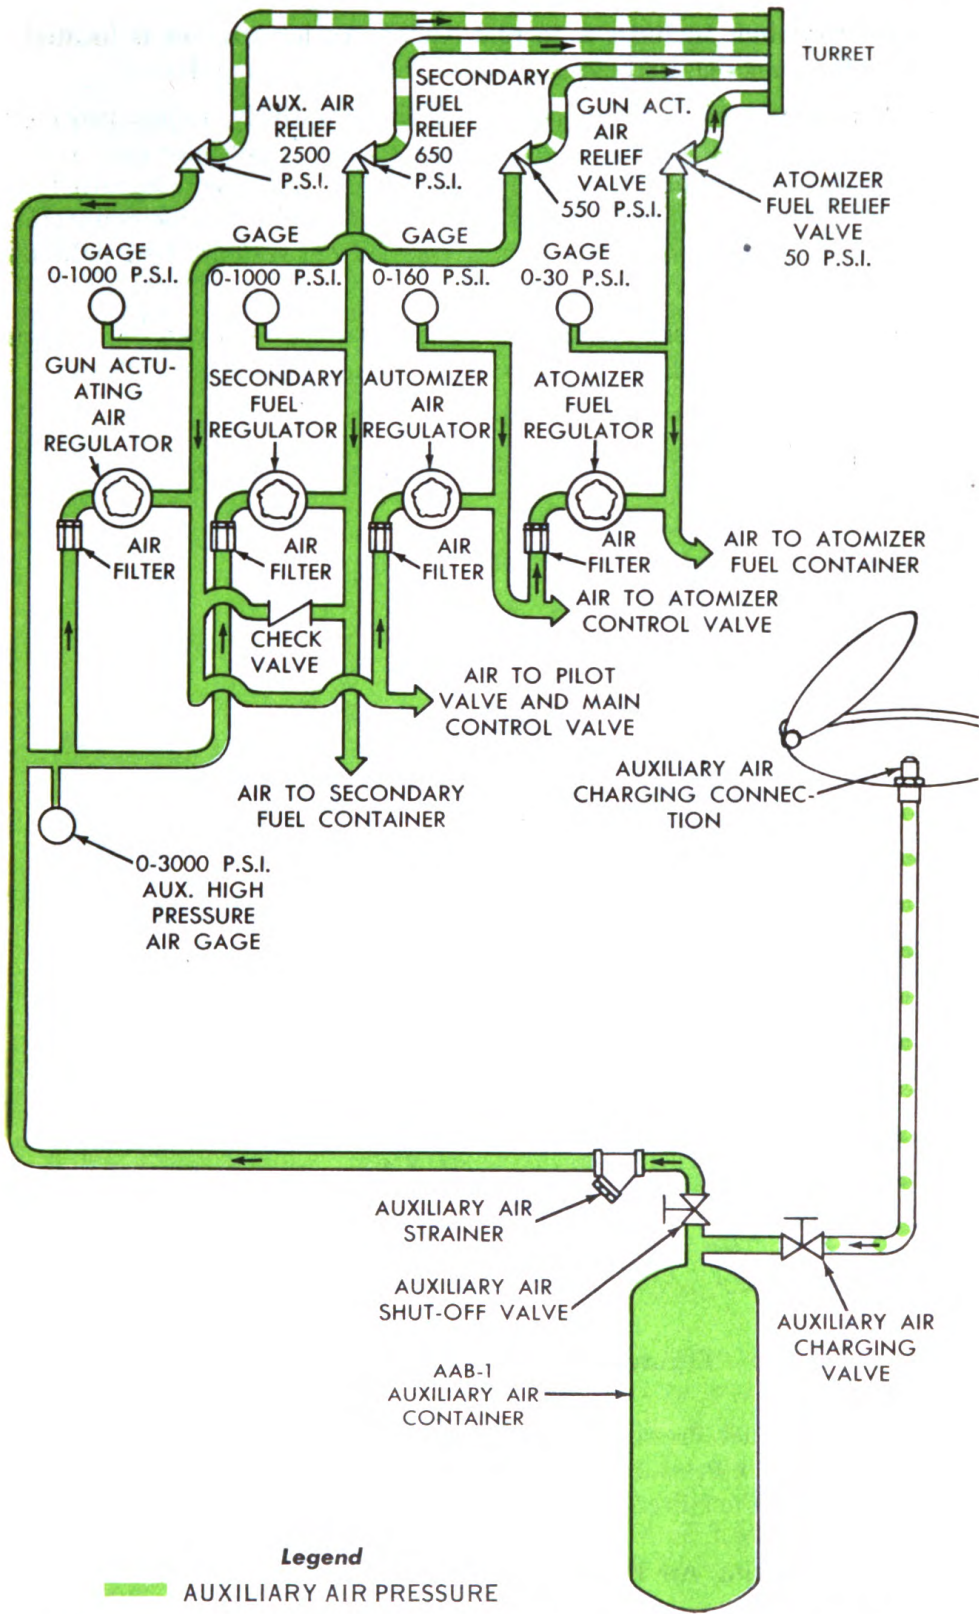

Figure 43—Flow diagram of auxiliary air pressure system.
α. Description. The auxiliary air pressure system (in the turret) (fig. 43) supplies pressure for actuation (operation) of flame gun, for the secondary fuel system, for the atomizer fuel system, and for the atomizer air system.
α. Description. The gun actuating air is taken from the 2,000 pounds per square inch turret auxiliary air pressure system and passes through the gun actuating air pressure regulator (with gage), where it is reduced to a pressure (375 to 400 pounds per square inch) equal to main fuel pressure (fig. 43). This comparatively low pressure air is then led to the main control valve located on top of the flame gun. An air relief valve set at 550 pounds per square inch prevents this system from being overloaded. The pressure regulator and gage for this line are mounted on the panel board suspended from the roof of the turret (figs. 19 and 44) and the
(1) *General.* The high pressure air for the secondary fuel system is taken from the turret auxiliary pressure system through a separate pressure regulator with gage where it is reduced to the normal operating pressure, which is 520 to 540 pounds per square inch (fig. 43). This comparatively low pressure air is then led to the pressure connection on top of the basket secondary fuel container. The secondary fuel pressure regulator and gage are mounted on the panel board suspended from the roof of the turret (figs. 19 and 44).
(2) *Emergency air line.* An emergency air line from the gun-actuating air pressure regulator outlet is connected into the pressure line leading to the secondary fuel container (fig. 43). This emergency air line automatically supplies air if normal flow of high pressure air for the secondary fuel drops below the gun actuating air pressure. This air is brought in through a check valve and line to a tee in the air system for secondary fuel behind the panel board.
(1) *Relief valve.* See subparagraph 42 b (2).
a. Description (fig. 43). Air from the outlet of the gun actuating air pressure regulator is connected to the atomizer air pressure regulator and its gage, mounted on the panel board (figs. 19 and 44). The outlet of this regulator provides 75 to 80 pounds per square inch of air to the air inlet of the atomizer valve.
- (1) *Leaks.* Check tightness of tubing and hose connections.
- (2) *Pressure regulator.* For adjustment of pressure, see paragraph 59. For repair of pressure regulator, which is normally a function of higher echelons, refer to paragraph 95.
a. Description (fig. 43). Air from the outlet of the atomizer air pressure regulator is led to the atomizer fuel pressure regulator and gage mounted on the panel board (figs. 19 and 44). The outlet of this regulator provides 7 to 8 pounds per square inch of air to the air inlet connection on the basket atomizer fuel container (par. 52 d). An air relief valve set at 50 pounds per square inch is provided in this system, the discharge line from this relief valve leading through the left rear turret shelf to the outside of the turret.
- (1) *Leaks.* Check tightness of tubing connections.
- (2) *Pressure regulator.* For adjustment of pressure regulator, see paragraph 59. For repair of pressure regulator, which is normally a function of higher echelons, refer to paragraph 95.